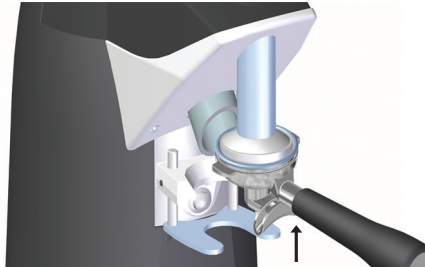

Fig. 5
Position the portafilter below the tamper (17) and push up to tamp the ground coffee (Fig. 5).